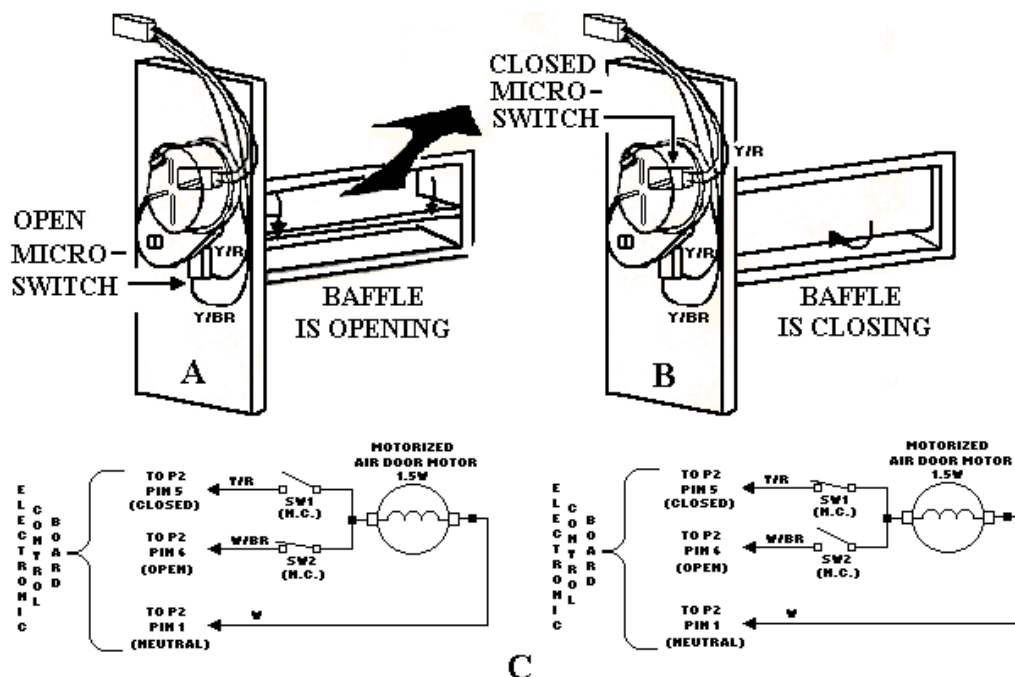

FIG. 31
1. To open the baffle: 120 volts AC is supplied to the baffle motor through the Y/R wire and switch SW1 (Fig.31-C). The motor rotates 270* from the "closed" position (Fig.31-A) to the "open" position where it contacts SW1 which opens and parks the motor.
2. To close the baffle: 120 volts AC is supplied to the baffle motor through the W/BR wire and Switch SW2 (Fig.31-C). The motor rotates 90* from the "open" position (Fig.31-B) to the "closed" position where it contacts SW2 which opens and parks the motor.